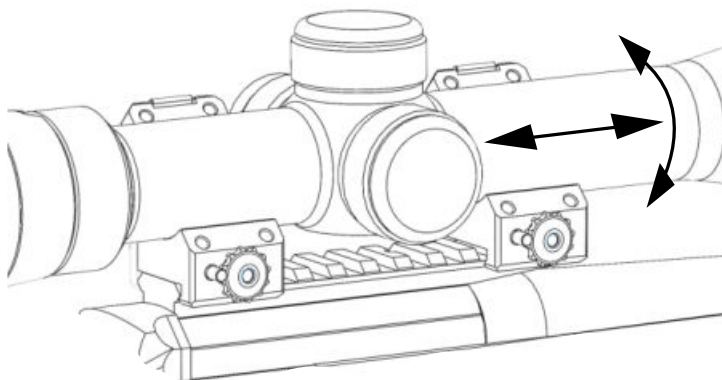

Fig. 5
- Move the scope backwards or forwards to achieve a comfortable head position and optimal eye relief, then rotate it to align the reticle horizontally and vertically (Fig. 5).